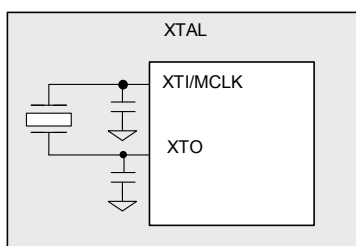

Figure 4-12. System Clocking—Crystal Mode
- Sourced from a crystal oscillator between XTAL/MCLK and XTO pins (see Fig. 4-12), then used directly as MCLK_INT